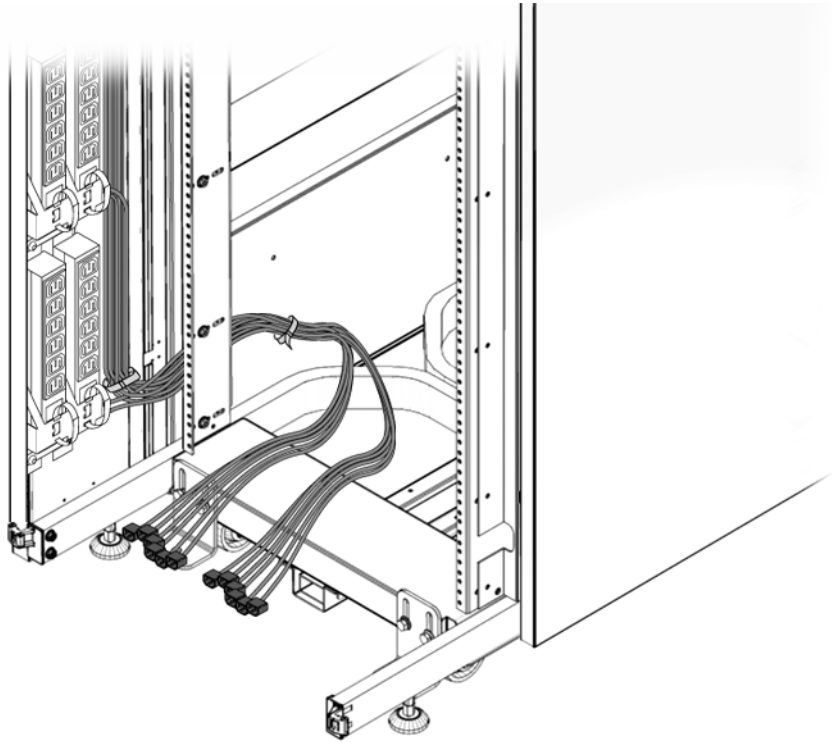

FIGURE 2-6 Bundling the Power Strip Cables
4. At the bottom of the Sun Rack, bundle all of the cables into two sets (FIGURE 2-6):